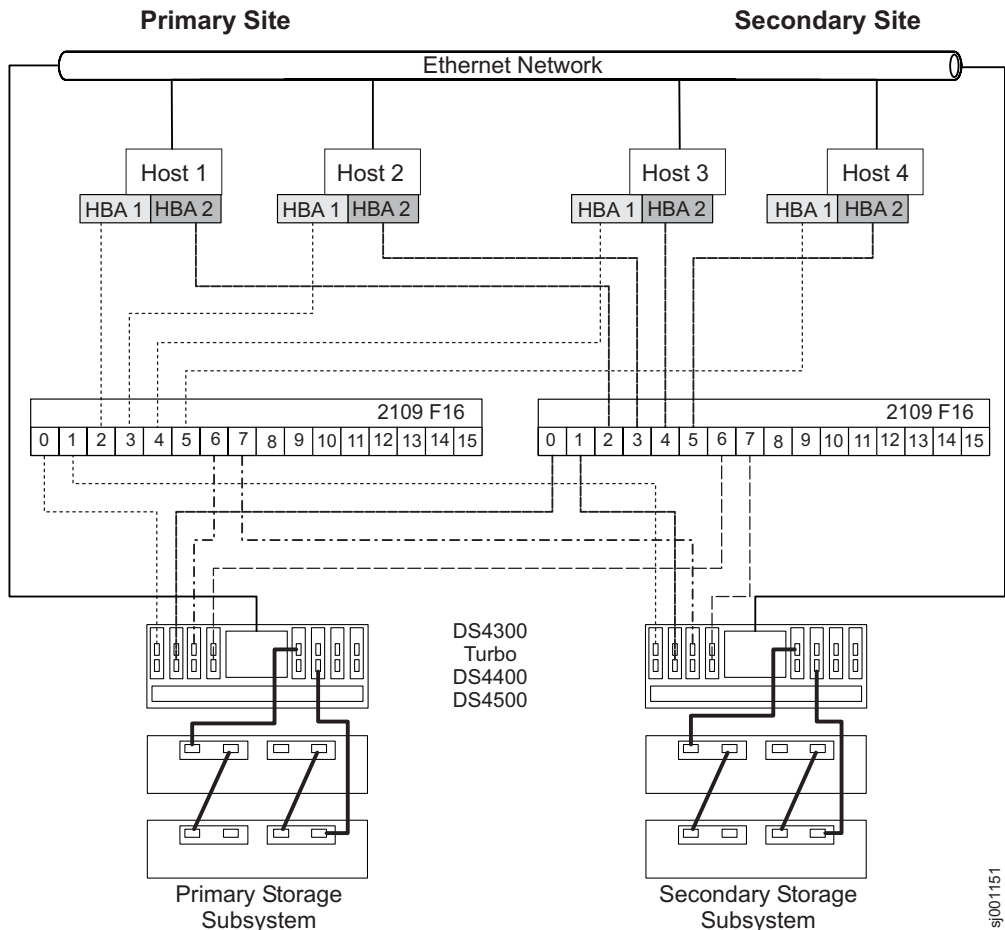

Figure 43. Intra-site configuration
Figure 43 on page 128 shows the Intra-site configuration after installation is complete.
Important: The Fibre Channel switches in Figure 43 contain 16 ports each, which leaves many unused ports per switch. If you are performing switch zoning using the Fibre Channel host port number, instead of the WWNN of the SAN fabric logged-in ports, do not include Fibre Channel switch ports with no Fibre Channel connections in the zone definition. If you include these unused ports in your zones, unauthorized access to the SAN might result.
Note: Figure 43 illustrates that there is no relationship between Zone A and Zone B in Switch 2 and Zone 1 and Zone 2 in Switch 1.
- Refer to Figure 43 on page 128 as you complete the steps in this procedure.